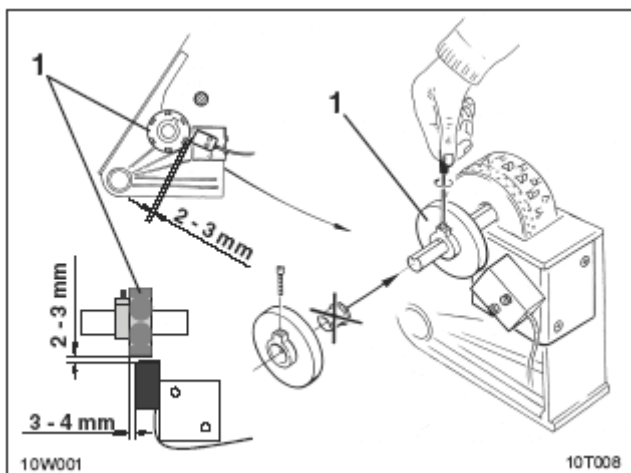

Fig. 10.2
- ☐ Attach magnet holder (Fig. 10.2/1) with 6 magnets to drilling shaft.